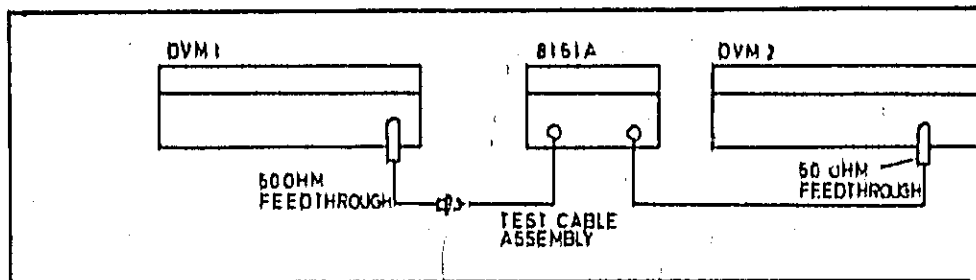

Figure 5-2
8. Connect the equipment as shown in figure 5-2.